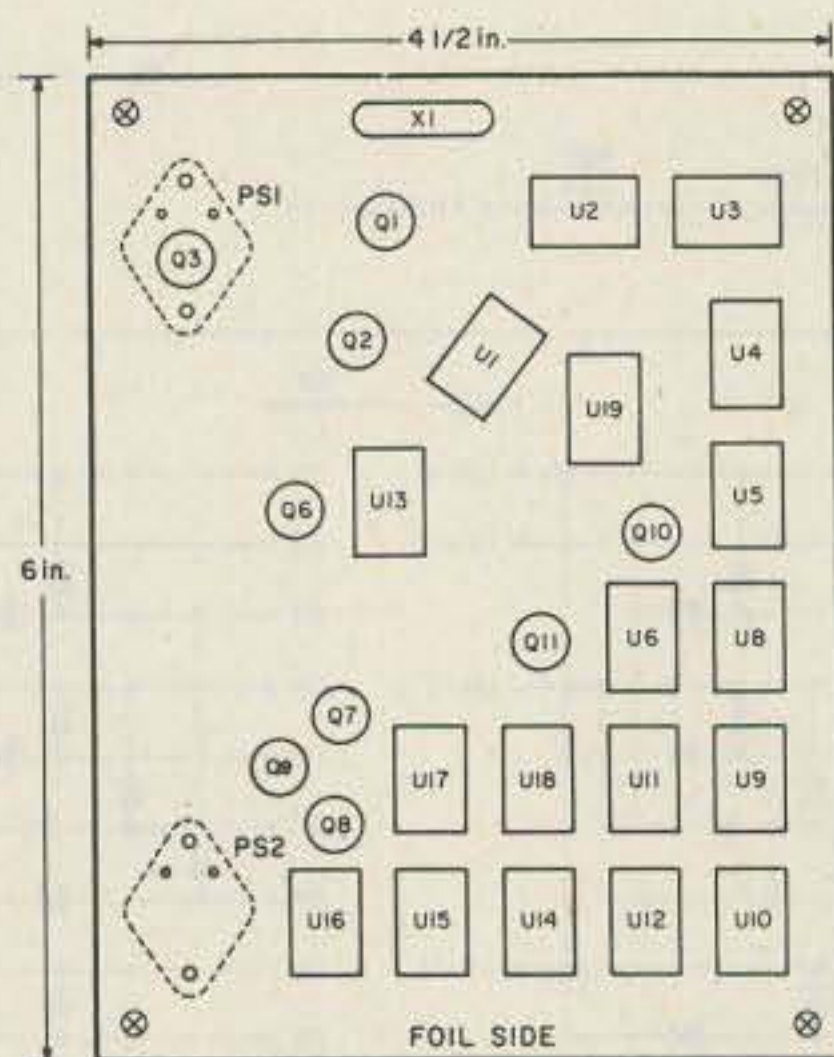

Fig. 12. Main circuit board IC layout.
This photo is a close-up of the main board. You are looking down at the IC socket pins. See Fig. 12 for IC locations. This board is held above the frequency select switches on four standoffs.
Refer to Figs. 12 and 13. The transistors and the integrated circuit chips (IC) are mounted on two copperclad boards. The copper is used as a ground plane. The ICs are